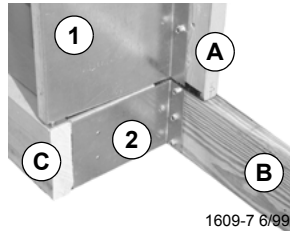

Figure 5. Non-Sump End
4. Reverse the Bottom Bracket at the non-sump end and mount as shown in **Figure 5**.